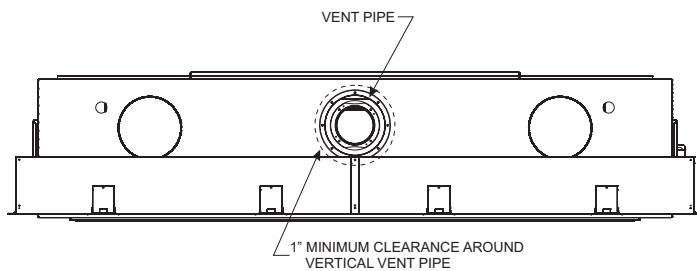

Figure 30
**NOTICE:** Maintain one inch of clearance around vertical vent pipe. See Figure 30.